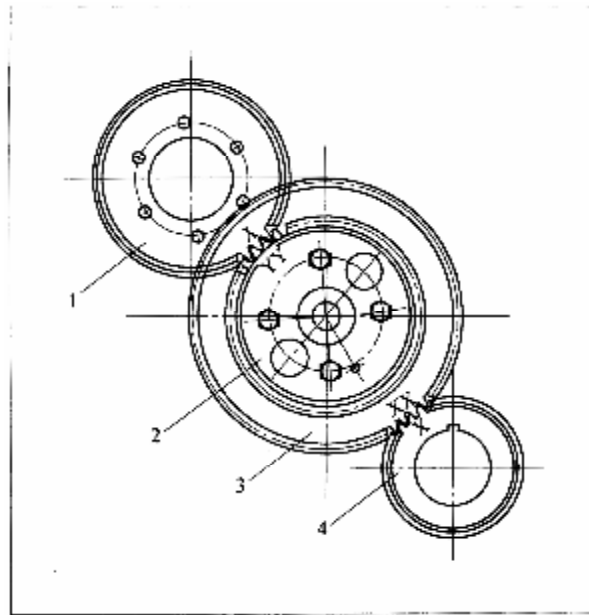

Figure 8-9 Gear Drive Mechanism
When to press to mount the timing gear, the mark “X” on gear should face outward (see Figure 8-9).
The turbocharged diesel engine's gear drive mechanism includes: the injection pump drive gear, camshaft gear, idle gear, crankshaft gear and other gears, as shown in Figure 8-9.
- (1) When pressing in the cam gear and idle gear, the gear marks “X, X” and “Y, Y” should face outwards (see Figure 8-9).
- (2) When to mount tappet into the tappet bore in cylinder block, apply the lubricating oil on them. Installed tappet should be able to rotate by hand.
- (3) After oil pump has been tightened, the camshaft should be able to rotate by hands.